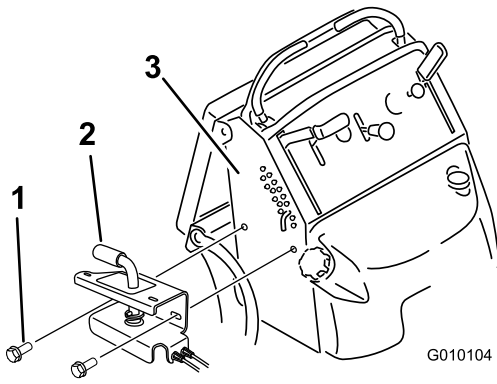

Figure 3
1. Install the handle assembly to the right side of the machine with 2 bolts (3/8 x 1 inch) (Figure 3). The bolts are thread forming bolts. The holes do not require tapping.